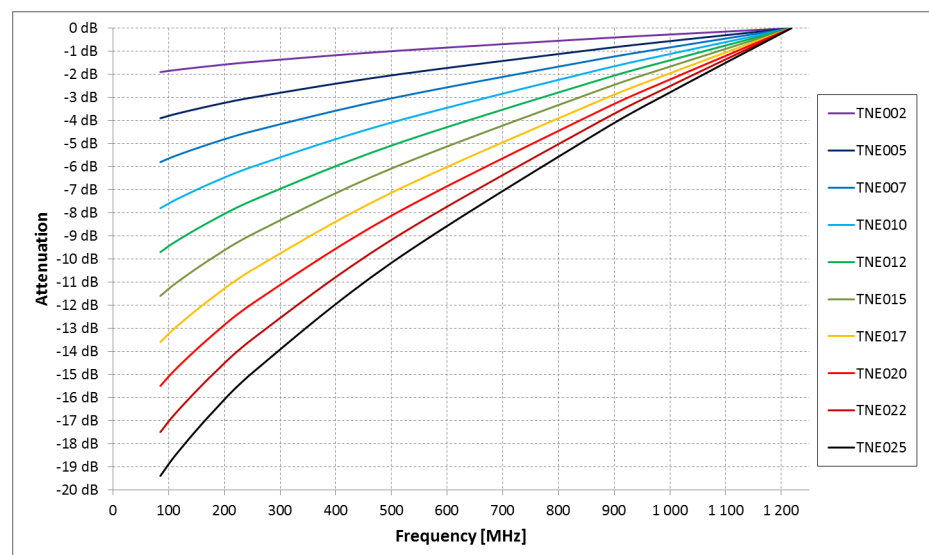

Figure 8. TNExxx equaliser curves
3. Desired output level is 117.5 dBμV at 1.2 GHz with slope 15.5 dB between 1.2 GHz and 85 MHz. If different output levels are desired, the plug-in attenuators and equalisers should be adjusted accordingly. Refer to the Figure 8 and Table 2.